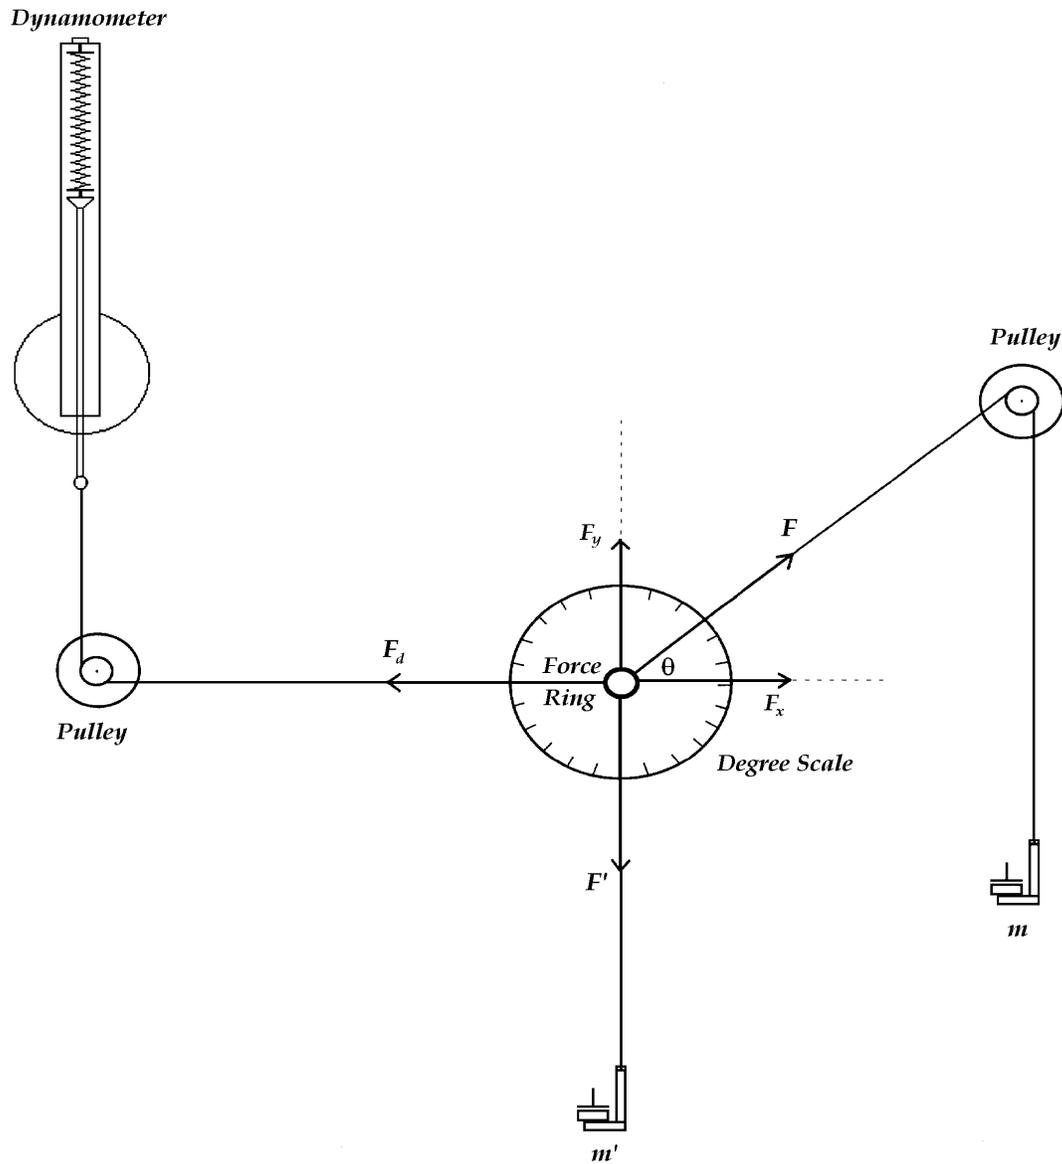

Figure 4. Experimental board with three forces applied to the force ring.
Refer to Figure 4. The exact same analysis is carried out to show that the force provided by the dynamometer F_d , and applied to the force ring, is in fact equal in magnitude to the x components of the force F applied to the same force ring by the hanging mass m . Similarly, along the y direction, we should show that the magnitude of the force F' applied to the force ring by the hanging mass m' is equal to the magnitude of the y component of the force F . See Figure 4.
- 1) **Set up** the equipment with mass hanger, masses, pulleys, force ring and string as shown in Figure 4.